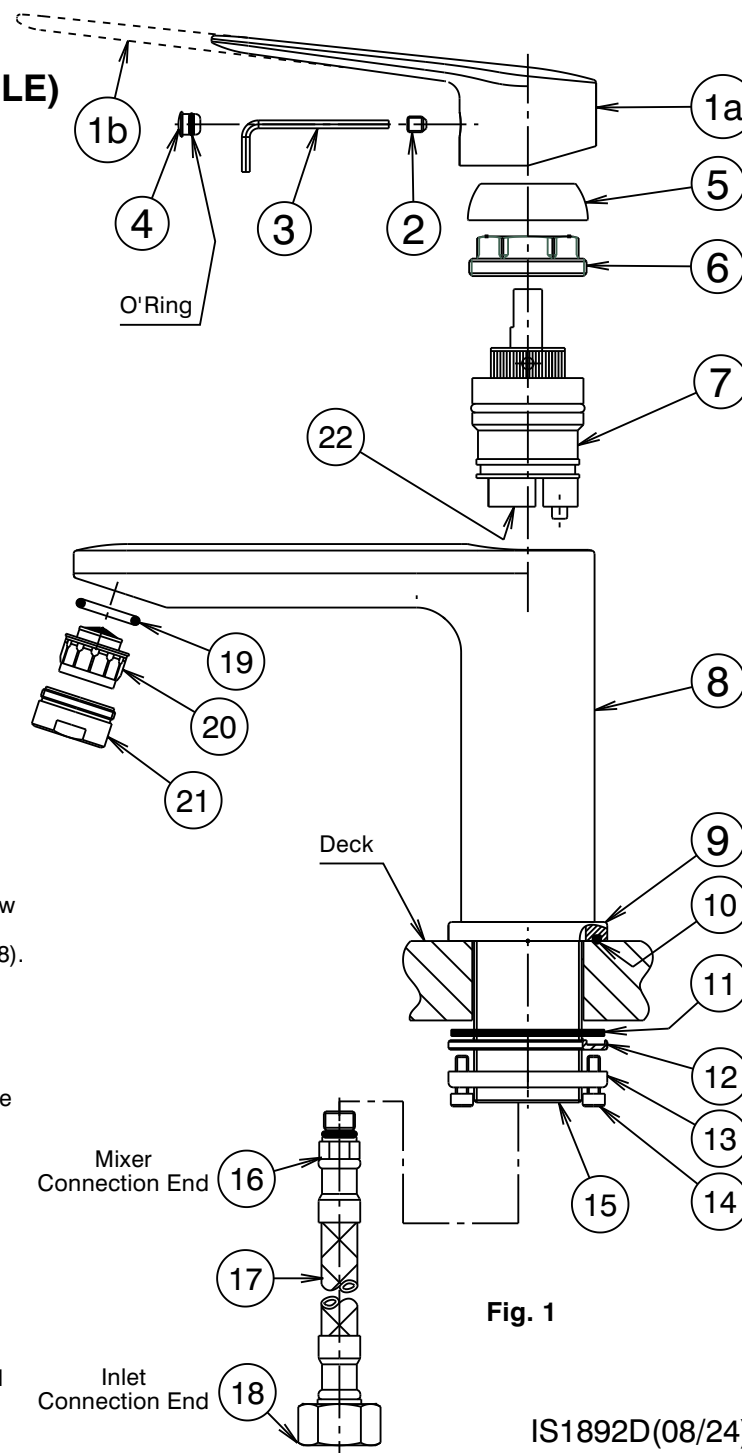

Fig. 1
- 1) From fixing pack fit 'O'ring (10) into groove in base ring (9). Slide the base ring over the threaded tube (15) & locate spigot of base ring (9) into base of mixer body (8), as shown.
- 2) **Flexible Tail Mixer Connections:** Apply suitable lubricant to 'O'rings (16). Fit flexible tail (17) (with red indication) into inlet hole marked with a Red Dot in underside of mixer body (8). Hand tighten the tail, ensuring the 'O'ring (16) has fully entered the sealing bore to provide a watertight joint. Fit other flexible tail (with blue indication) into remaining hole in a similar manner.
- 3) Insert the inlet connection end (18) of each flexible tail (17) through the hole in the deck. Insert threaded tube (15) of mixer (8) into deck hole, fit washer (12) together with flat seal (11) over threaded tube of mixer as shown in Fig. 1. Screw clamp ring (13) onto threaded tube until it contacts washer (12) & the flat seal (11) has contacted the underside of the deck. Tighten two screws (14) equally using a 3mm allen key until mixer assembly is clamped firmly to the deck. DO NOT OVERTIGHTEN.
- 4) **Flexible Tail Inlet Connections:** Connect the flexible tails (17) to the hot and cold isolating stop taps, hand tighten the connecting nut (18) until rubber cone contacts the sealing face of the connection end, then tighten a further one turn to provide a watertight joint.